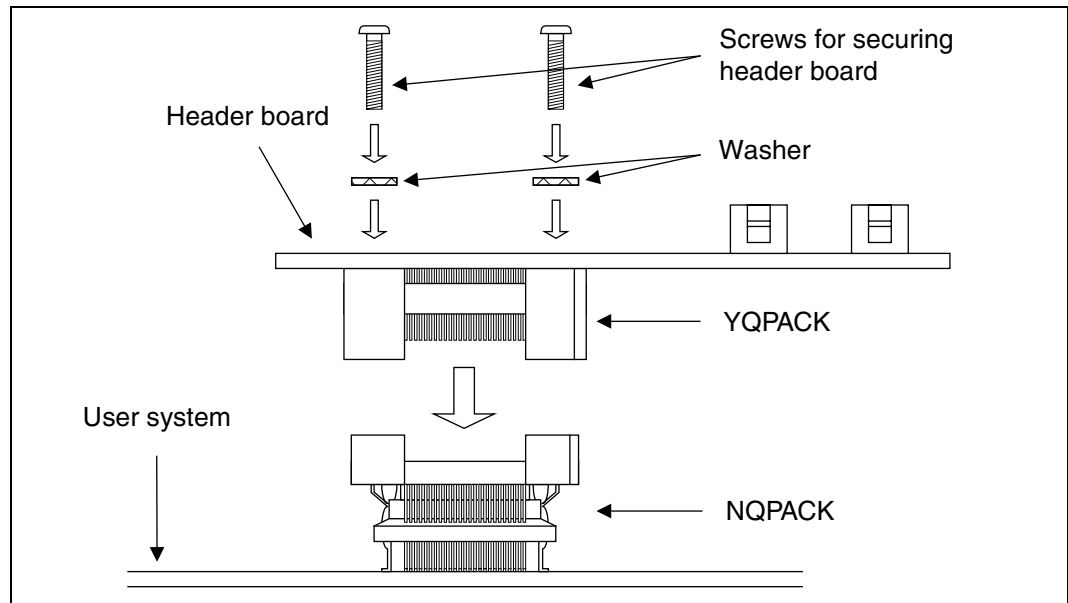

Figure 4 Header board connection
2. Insert each screw for securing header board in each of the four screw holes on the header board (See Figure 4).